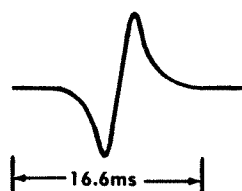

Figure 6-2. Tac Pulse
2. Set the RECORD-PLAY lever to RECORD. Set the TRIGGERING MODE of the oscilloscope to INT and connect the probe of the oscilloscope to TP201. Check the TAC pulse, Figure 6-2. It should be 1.5V to 1.8V negative. If the voltage is larger, adjust the pole piece by moving the arm to the left or to the right of the center tab located on the bracket below the rotating disc. Moving the pole piece to the right or left reduces the pulse amplitude.